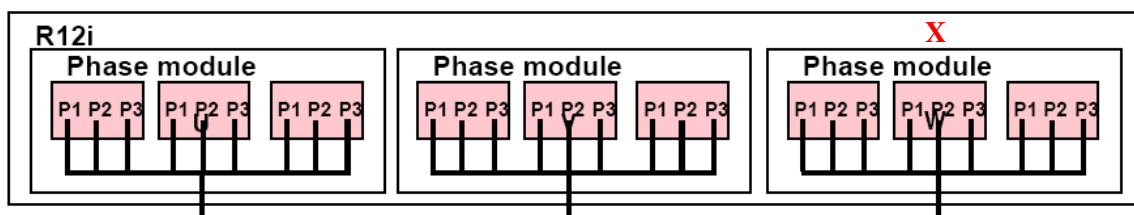

Figure 1. A principle drawing of parallel connected IGBTs in 1x R12i drive, minimum upgrade is one phase module.
- An example of minimum upgrade marked with [X] in figures 1 and 2 in the case phase W is damaged